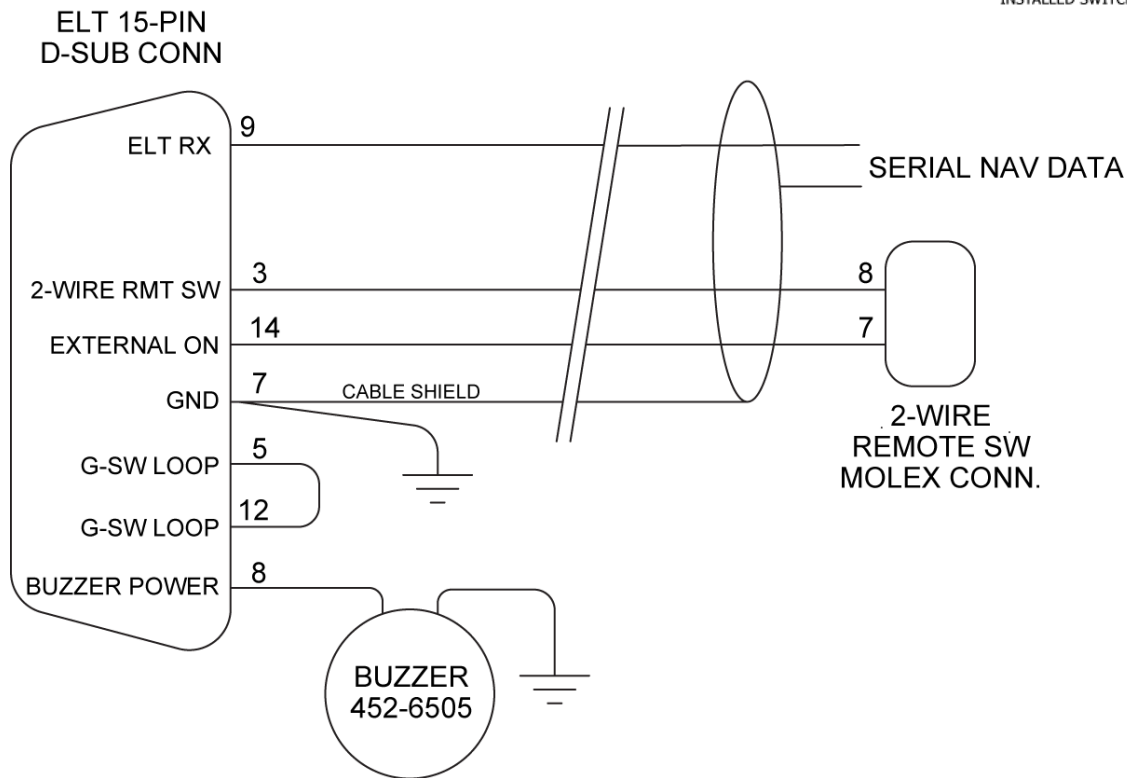

Figure 18 Typical 2-Wire Installation for Shielded Harness
- 5) Buzzer ground conductor may be soldered to the cable shield or ground pin for composite airframe installations (see Figure 18 Typical 2-Wire Installation for Shielded Harness on page 48 for composite airframe wiring diagram).
- 1) Insert the wiring pins into the Molex 9-pin cockpit remote switch plug. Refer to Figure 17 Typical 2-Wire Installation for Unshielded Harness on page 47, Figure 18 Typical 2-Wire Installation for Shielded Harness on page 48.
- 1) Connect the ground wires to the airframe as described in AC 43.13-1, Chapter 11, § 15, as applicable. Refer to Figure 17 Typical 2-Wire Installation for Unshielded Harness on page 47, Figure 18 Typical 2-Wire Installation for Shielded Harness on page 48 as appropriate.